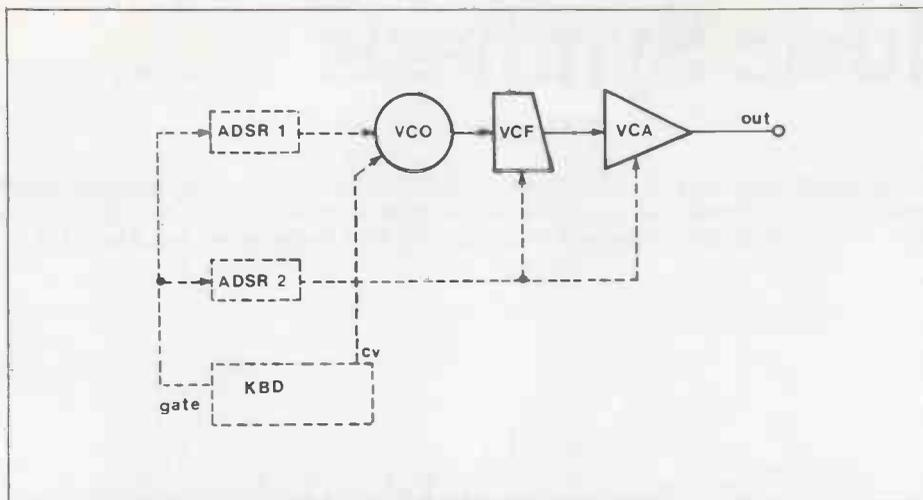
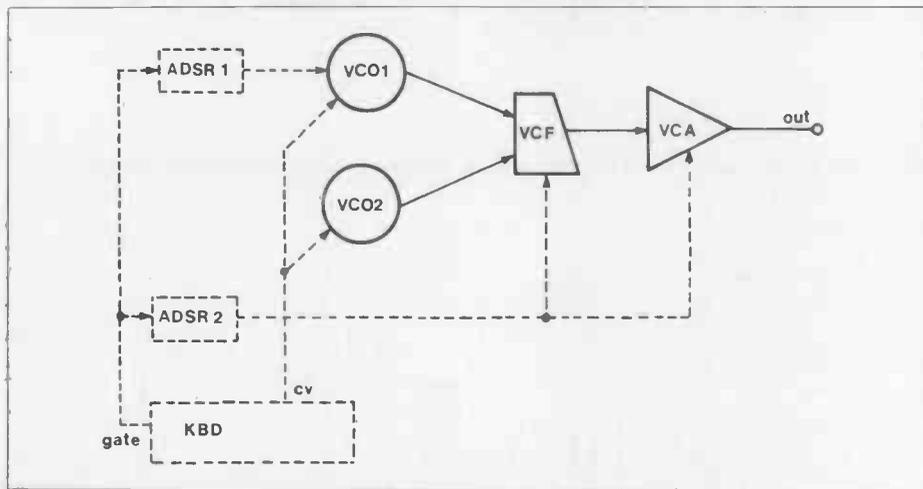
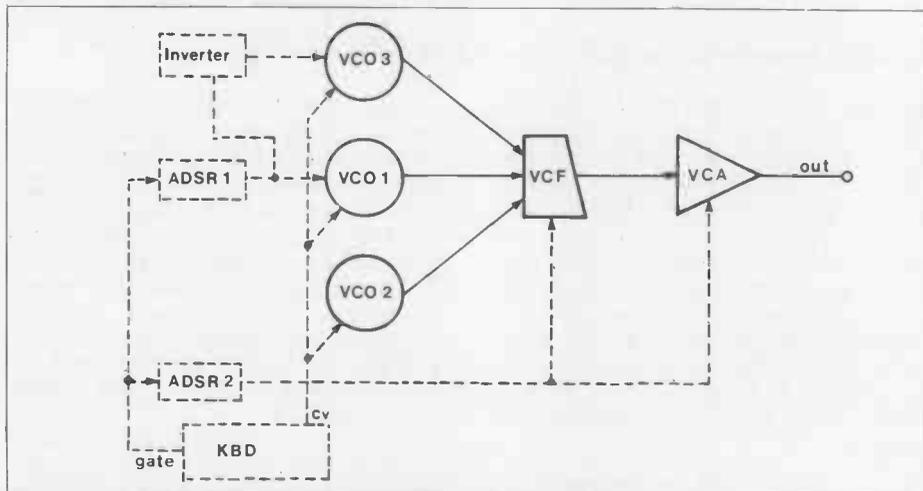
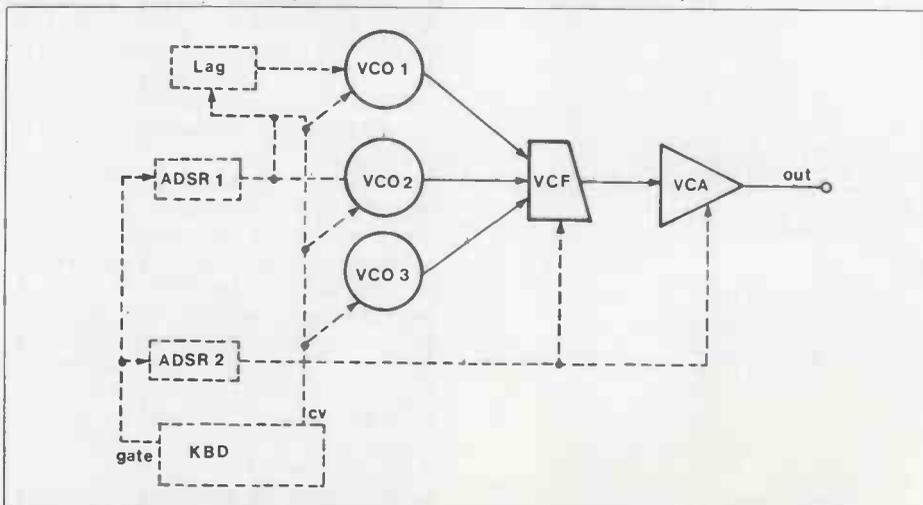

Figure 2. Basic patch for modulation of VCO by ADSR envelope generator.
Figure 3. Bending one VCO against another with an ADSR.
Figure 4. Two VCO's bending against a third with +ve and -ve ADSR envelopes.
Figure 5. Producing different rise times with one ADSR.
Another form of modulation is by an envelope generator (EG). We are all familiar with the 'pew-pew' syndrome effect — this is simple modulation of a VCO's pitch with an ADSR-type EG whose attack is almost instant and whose decay/release portion is variable. This causes the pitch to rise immediately and fall as the sound dies away. EGs can be used far more usefully than that, however. Patch an EG to the CV input of a VCO as in Figure 2 and put the sustain level on the EG to maximum (for the time being). Use an attack time of about 500ms and a release of about the same time. Adjust the modulation depth control carefully so that when a note is played it will 'swoop' up an octave in accordance with the attack time and sustain at a constant pitch while a note is held. By using another VCO as in Figure 3 and tuning that VCO an octave up from VCO1's initial frequency, whenever a note is played VCO1 will fly up to meet VCO2 — this is very useful for brass and vocal sounds as well as many synthesiser effects. For those amongst you with fairly elaborate synths you might like to try the patches in Figures 4 and 5. In Figure 4, because the EG is connected to VCO3 via an inverter, that oscillator will move down to meet VCO2 while VCO1 will still 'fly' up to meet VCO2. In Figure 5 where the EG is connected via a lag time integrator (a device that introduces a portamento-like slur to any voltage fed into it) it is possible to have, effectively, different rise times for each VCO.